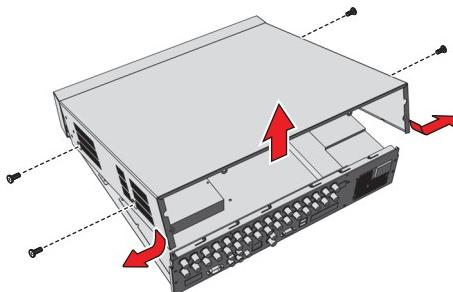

Figure 3. Removing the Chassis Cover
- a. Remove the two screws on the left and right side panels of the DVR (refer to Figure 3).
NOTE: The screws on the back of the unit are not shown in Figure 3.